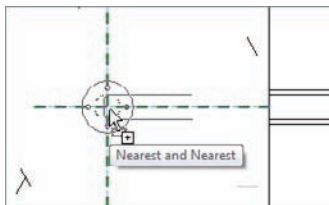

FIGURE 10.15 Placing the family in the intersection
11. Press the spacebar once to rotate the family into place, so it is oriented as shown in Figure 10.15.
12. Place the family at the intersection of the two reference planes, as shown in Figure 10.15, and then press Esc twice or click Modify.